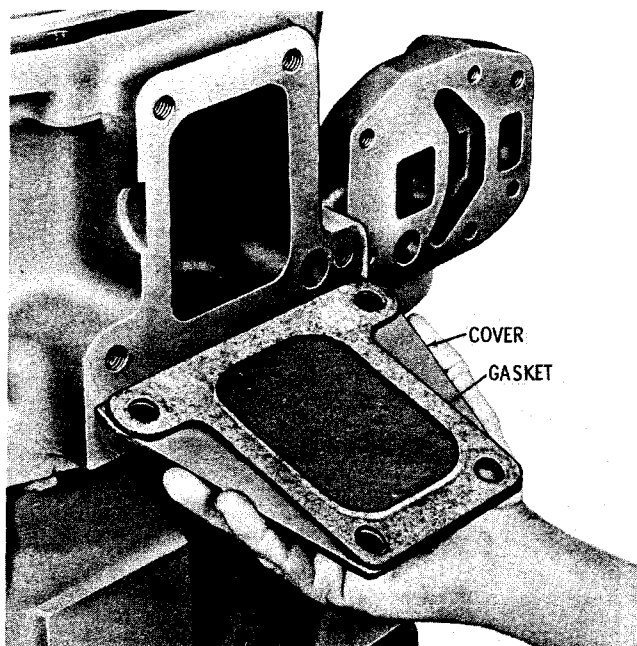

Fig. 7-45. Installing converter housing access cover
(27) Install the converter housing access cover and gasket (fig. 7-45). Retain it with four 1/2-13 x 1 1/4-inch bolts, with lock washers. Tighten the bolts to 67 to 80 pound feet torque.